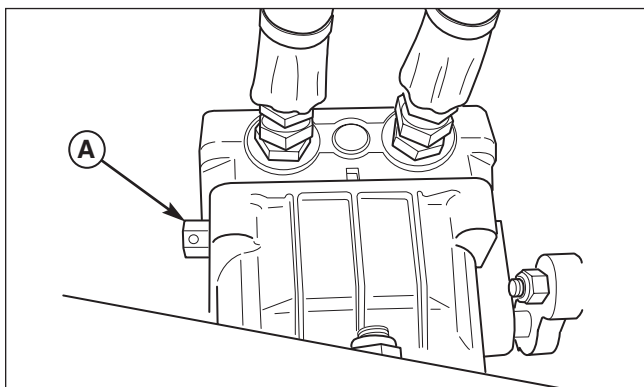

Figure 3. Hydraulic Release Valve Location
1. Refer to Figure 3 for hydraulic release valve location.